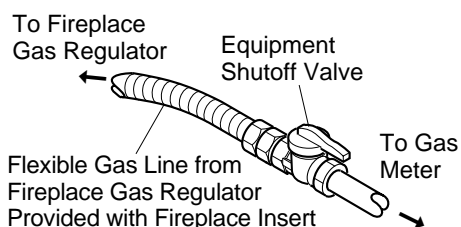

Figure 19 - Attaching Flexible Gas Lines Together
NOTICE: Most building codes do not permit concealed gas connections. A flexible gas line is provided to allow accessibility from the fireplace (see Figure 19). The flexible gas supply line connection to the equipment shutoff valve should be accessible.
- Connect gas supply line to flexible gas line attached to gas regulator of fireplace insert (see Figure 19). Use sealant on all male pipe threads.